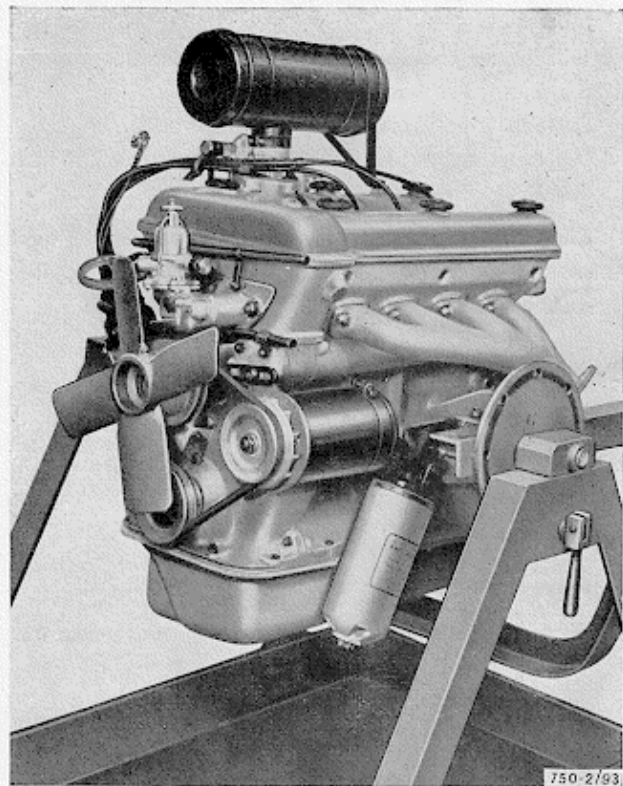

Fig. 93 - Engine on a trestle
- 6) Stand the engine on a suitable trestle (fig. 93), disconnect the clutch/gearbox unit (see part 3) and dismantle the engine as described in the following chapters.